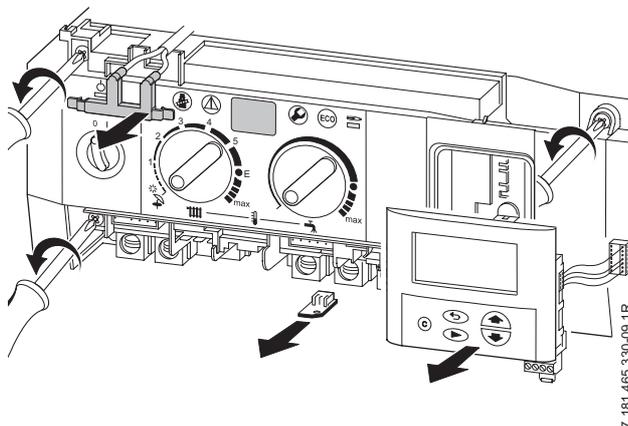

Fig. 52
- ▶ Remove two top fixing screws from the control box. Refer to fig. 52.